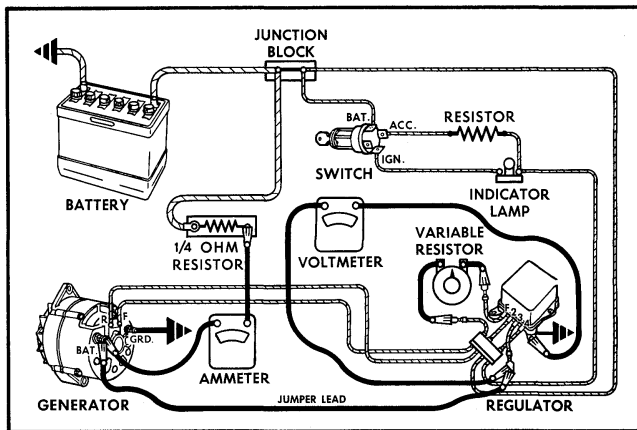

Fig. 11-36 Connections for Checking Voltage Setting
A. Connect an ammeter and a 1/4 ohm resistor with a rating of 25 watts or more in series in the circuit at the "BAT" terminal on the generator. (Fig. 11-36) In case the battery is discharged, the 1/4 ohm resistor will limit the generator output to 10 amperes or less which is required when checking and adjusting the voltage setting.